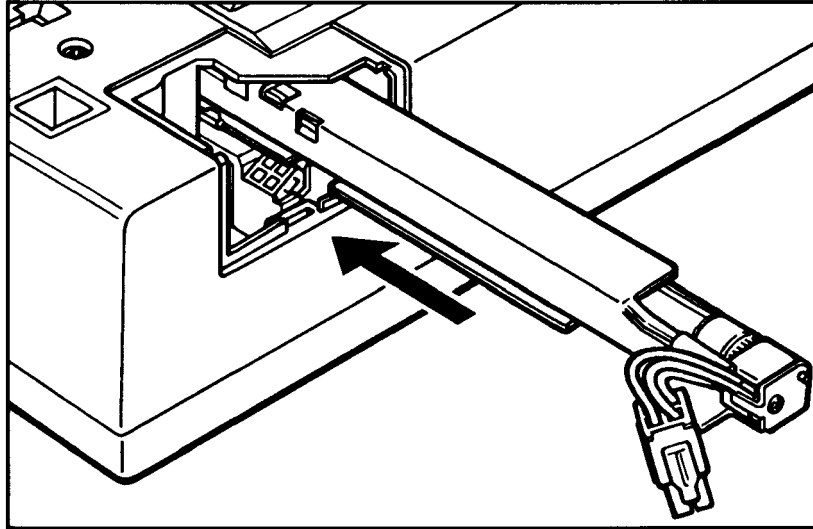

Figure 23. Sliding In the Lamp Holder
14. Slide the lamp holder completely into the scanner. See figure 23.